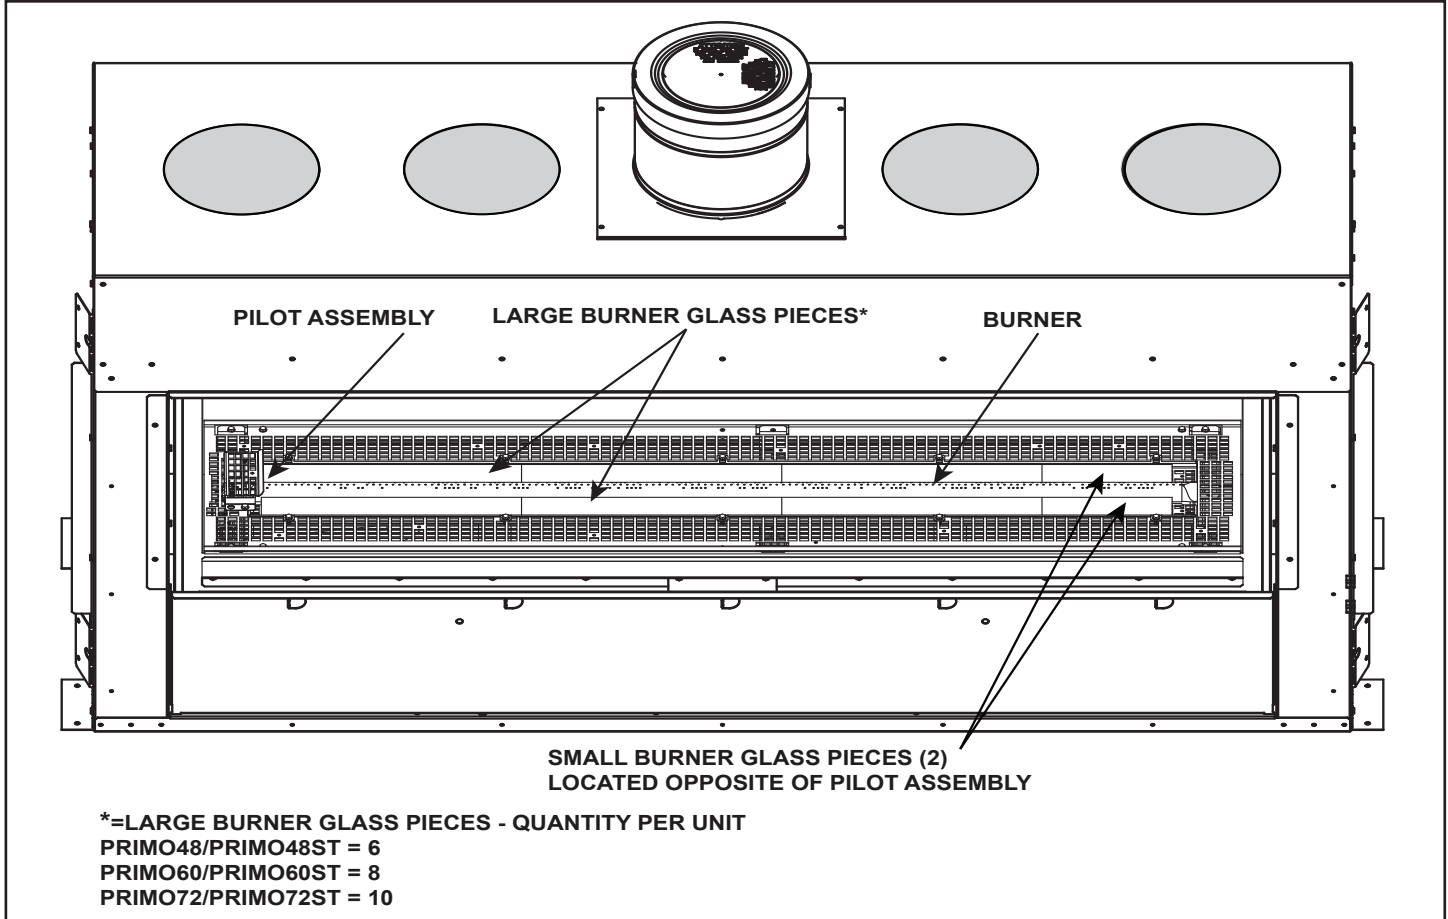

Figure 11.1 Burner Glass Installation
2. Position the burner glass tight to the burner tube as shown in Figure 11.1.